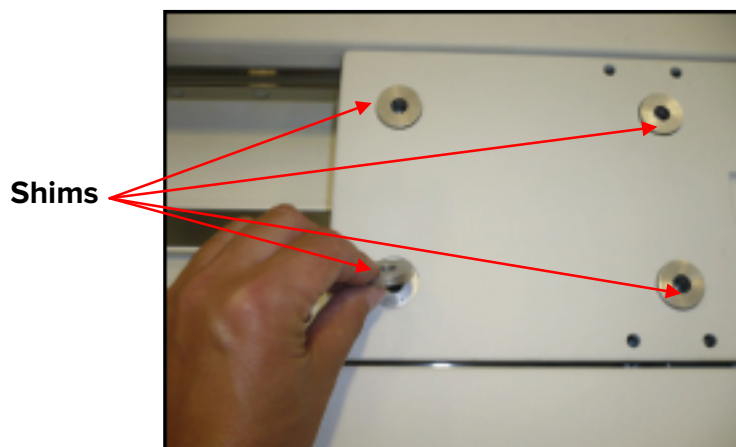

Fig. 30
- Once the frame is installed, check the levelness. If the frame is not level, remove the frame and add peelable shims as necessary until the couch top is level (Fig. 30).